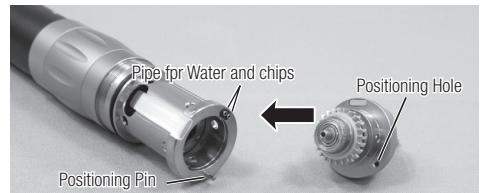

Fig. 17
- (3) When fitting a new cartridge, align the water and chip air pipes as well as the positioning pin with the holes in the nose hood of the cartridge and push in straight. (Fig.17)
- (4) Finally, tighten the cartridge retainer securely.